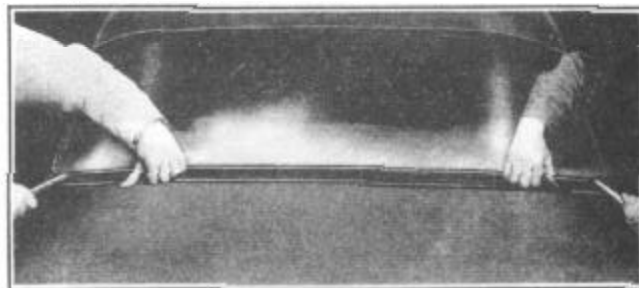

FIGURE 67
3. With the aid of an assistant, start at the lower curved section on each side of the glass and insert a tapered fibre block between weatherstrip and behind the glass, as shown in Figure 67. Work wedge across the bottom, releasing glass from the weatherstrip. Grasp glass at bottom and lift glass up and away from body.